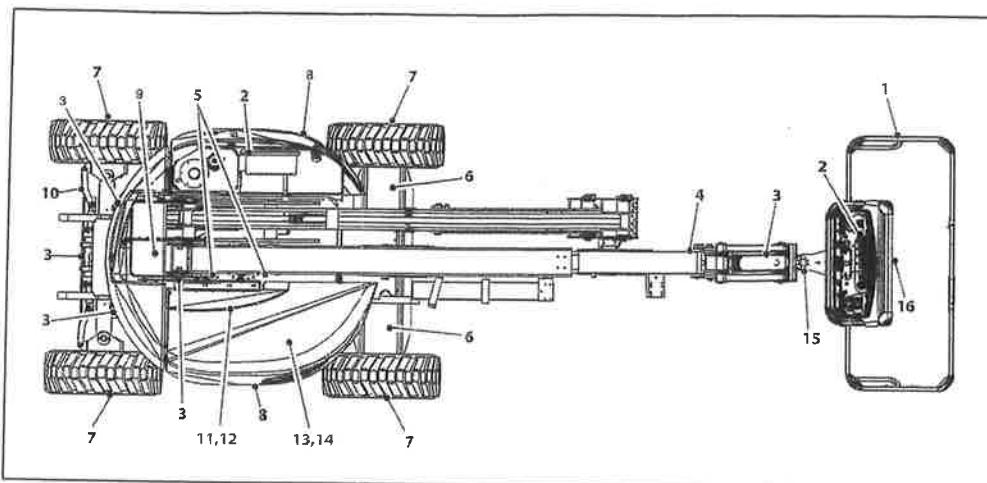

Figure 2-3. Daily Walk-Around Inspection - Sheet 1 of 3
4. **"Walk-Around" Inspection** – Refer to Figure 2-3, and Figure 2-4, and Figure 2-5.